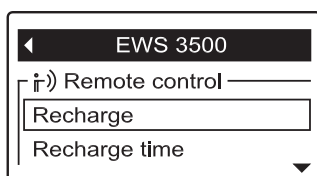

FIG. 109
2. Press the remote’s SELECT (O) button to display the device menu (See Figure 109).
3. If necessary, press the DOWN (▼) button to scroll through the menu options until **Recharge** is highlighted in a box (See Figure 109).
6. Press the SELECT (O) button. The display will go back to the conditioner/refiner menu (Figure 109).